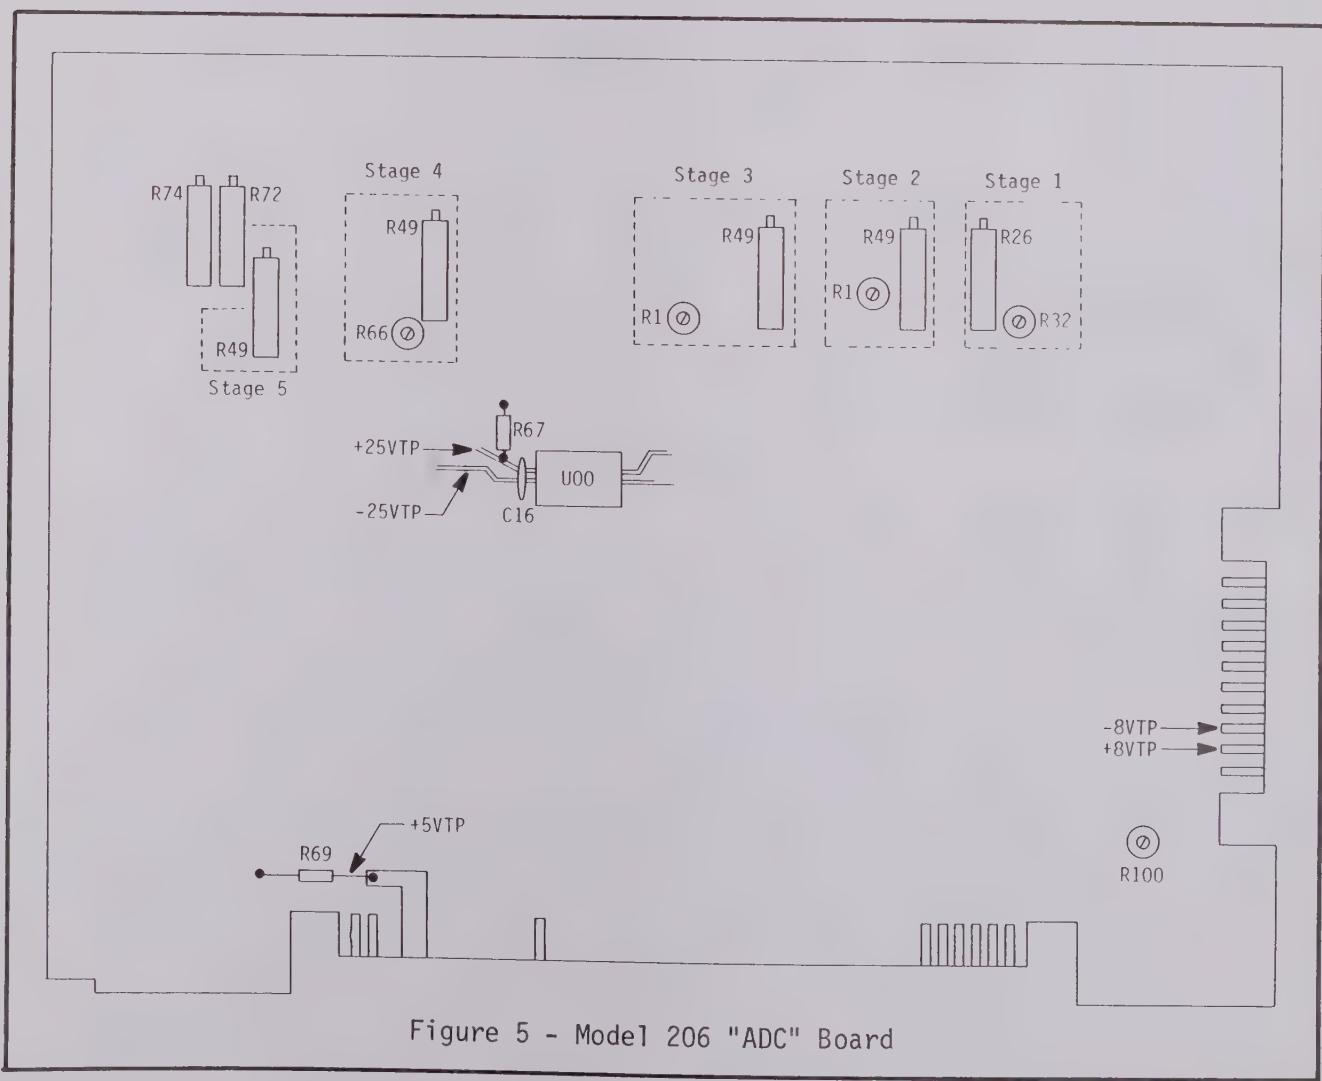

Figure 5 - Model 206 "ADC" Board
2. Connect the multimeter to the +5VTP. (See Figure 5)
2. Slowly adjust the Stage 4 - R66 trimpot (Figure 5) until a separation appears on the waveform.
2. Slowly adjust the Stage 5 - R49 trimpot (Figure 5) until a separation appears on the waveform.
4. Connect the multimeter to +25VTP. (See Figure 5)
5. Connect the multimeter to -25VTP. (See Figure 5)
7. Connect the multimeter to +8VTP. (See Figure 5)
8. Connect the multimeter to -8VTP. (See Figure 5)
- a. Adjust R100 for a reading equal to the magnitude of the +8 VDC recorded in Step 7,  $\pm$  1%. (See Figure 5)